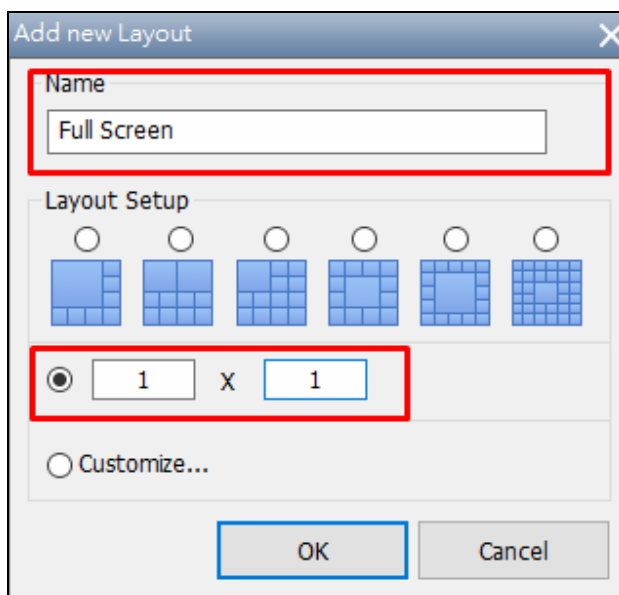

Figure 1-71
2. Click the **Add** button  and click **Add Layout** to name the layout and add a 1 x 1 layout as in Figure 1-71.